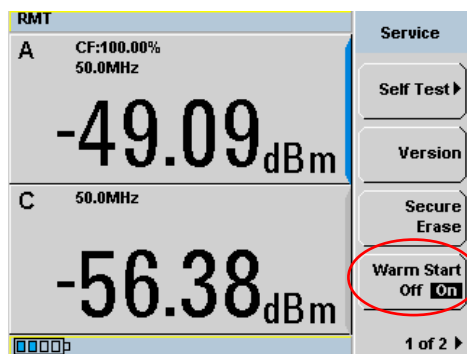

Figure 3-61 Enable/disable warm start feature
- 2 In the Service menu, press **Warm Start Off/On** to enable or disable the warm start feature. This feature is set to ON by default (see Figure 3-61).